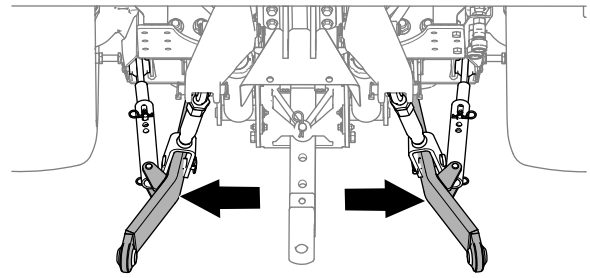

Figure 26
4. Adjust the stabilizer arms (Figure 26) outward fully; refer to the *Operator's Manual* for the tow machine.